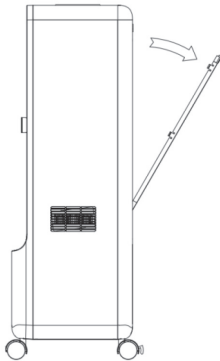

Fig. 1
- Take out the filtration mesh (Fig 1).